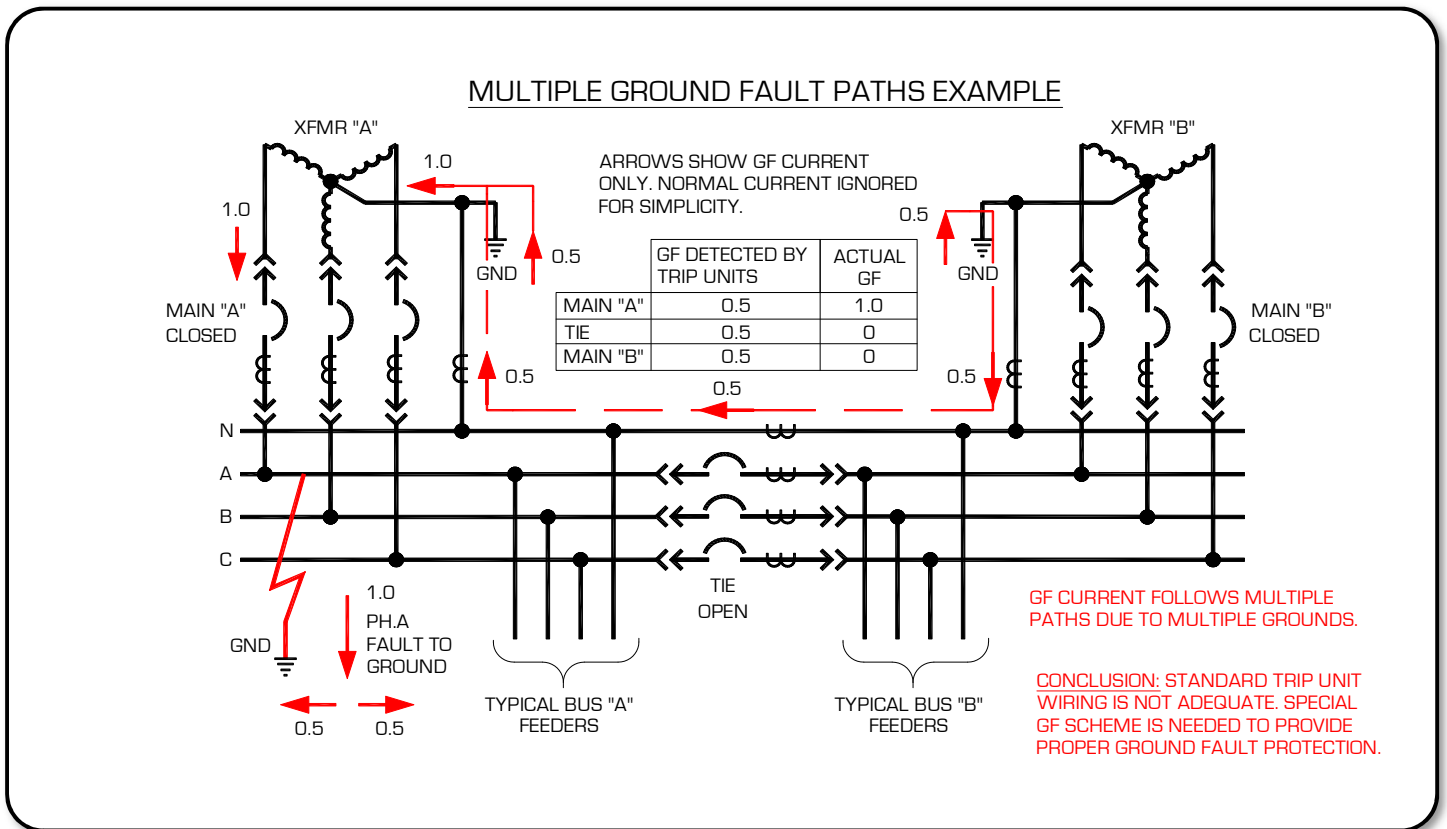

Figure 1: Multiple Ground Fault Paths Example with Improper Ground Fault Protection
- If the neutral bus is grounded at multiple locations, multiple paths for Ground Fault current exist. This can cause incorrect Ground Fault current sensing at Main & Tie breakers, which can result in undesirable tripping or lack of tripping. See Figure 1 below for an example of improper application of Ground Fault Protection on a 4-wire Double-ended Substation.